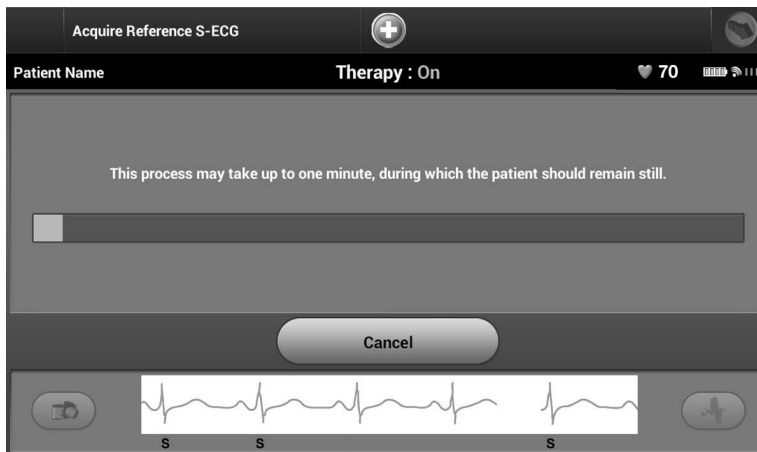

Figure 46: *The patient should remain still while the Reference S-ECG is acquired*
2. Select Continue to acquire a Reference S-ECG. The programmer will begin acquiring the Reference S-ECG. A message will appear requesting that the patient remain still (Figure 46). The reference S-ECG QRS template is recorded and stored in the SQ-RX device.